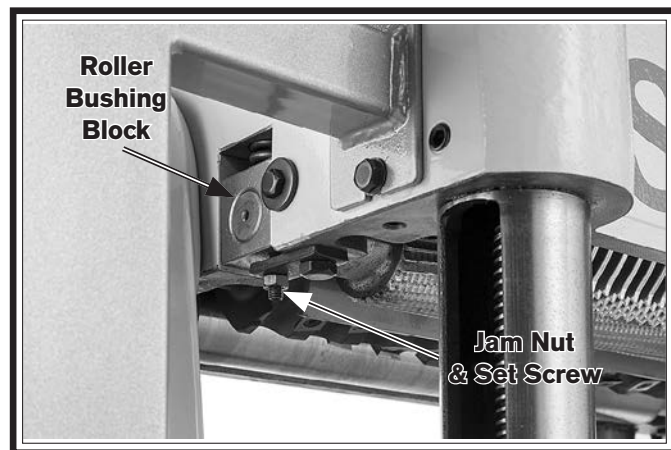

Figure 52. Location of infeed roller bushing block and height adjustment controls (left side shown).
8. Loosen jam nuts and use set screws on each side of feed roller as shown to adjust height of infeed roller bushing block until Rotacator dial shows 0.040", which is the recommended distance for infeed roller below the cutterhead (see **Figure 52**).